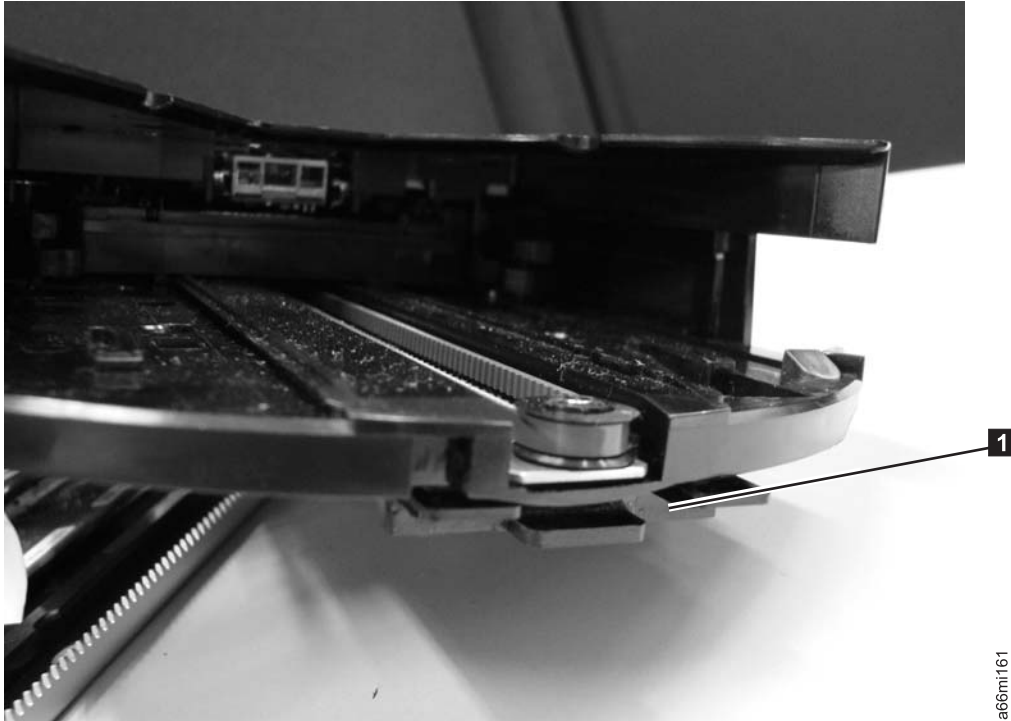

Figure 8-72. Slot on the Picker Assembly
- 1) The slot is indicated by **1** in Figure 8-72